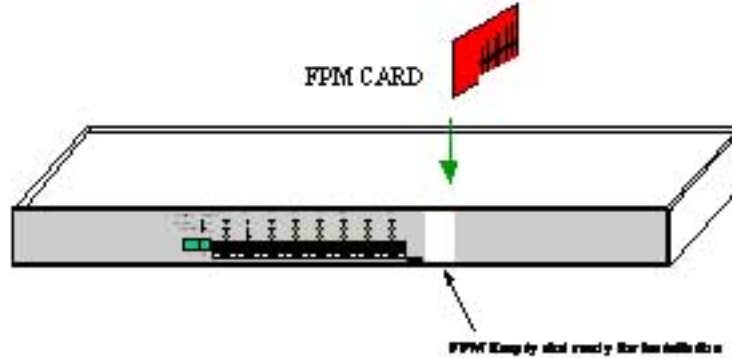

Figure 3.4.2b: Inserting PM Cards into a RFL 3000 4K8
Step 3. Be sure the pins are precisely aligned with the holes in the header, and the FPM front panel is guided into the front slot cut-out. Then, slowly and carefully apply enough pressure to insert the FPM card pins into position, see Figure 3.4.2b. (If